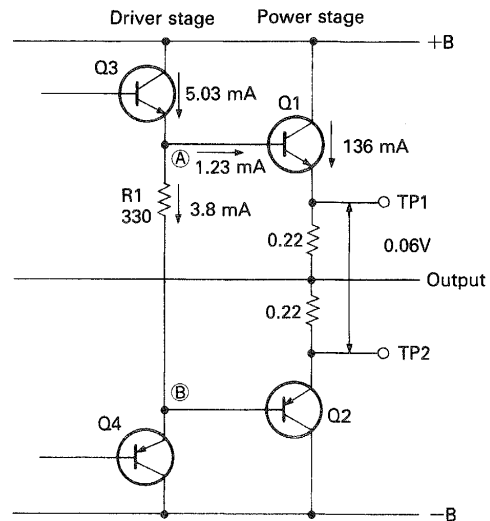

Fig. 4 Circuit (c) — Emitters Floating
The current has been made about 5—10mA. In Fig. 4, when the potential difference between TP1 and TP2 is set to 60mV, Q1's collector current becomes 136mA. Q1's Hfe is 110. Then the base current becomes 1.23mA. To flow 5mA current in Q3, the current from (A) to (B) should be 3.8mA. To make a current of 3.8mA in R1, the potential difference between (A) and (B) should be 1.26V (0.6 + 0.06 + 0.6). So R1 should be 330Ω.